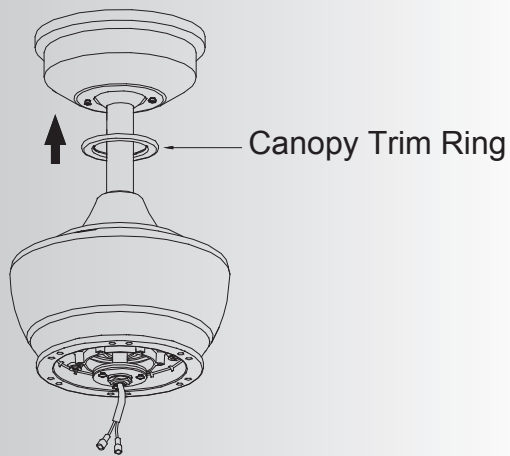

Fig. 16
Step 3. Securely attach and tighten the canopy trim ring over the shoulder screws in the mounting bracket utilizing the keyslot twist-lock feature. (Fig. 16)